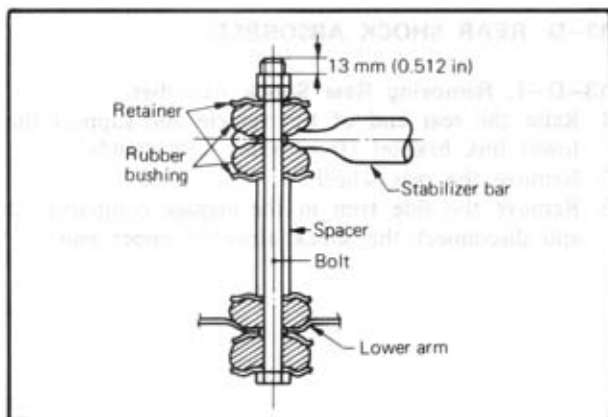

Fig. 13-29
2. Tighten the front ends of the stabilizer bar to the specifications as shown in Fig. 13-29.